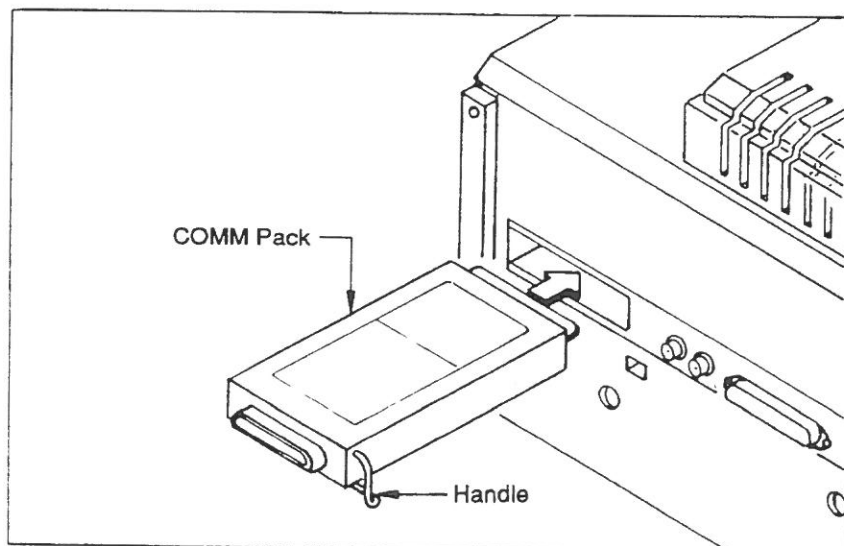

Figure 2. Installing a 1200C01 RS-232C COMM Pack in a PRISM 3001 Logic Analyzer or 2505 TestLab. Do not install or remove a COMM Pack while dc power is on.
- If you have a PRISM 3001 Logic Analyzer or a 2505 TestLab, insert the COMM Pack into the port marked 1200CXX COMM PACK PORT located on the rear of the instrument, as shown in Figure 2.